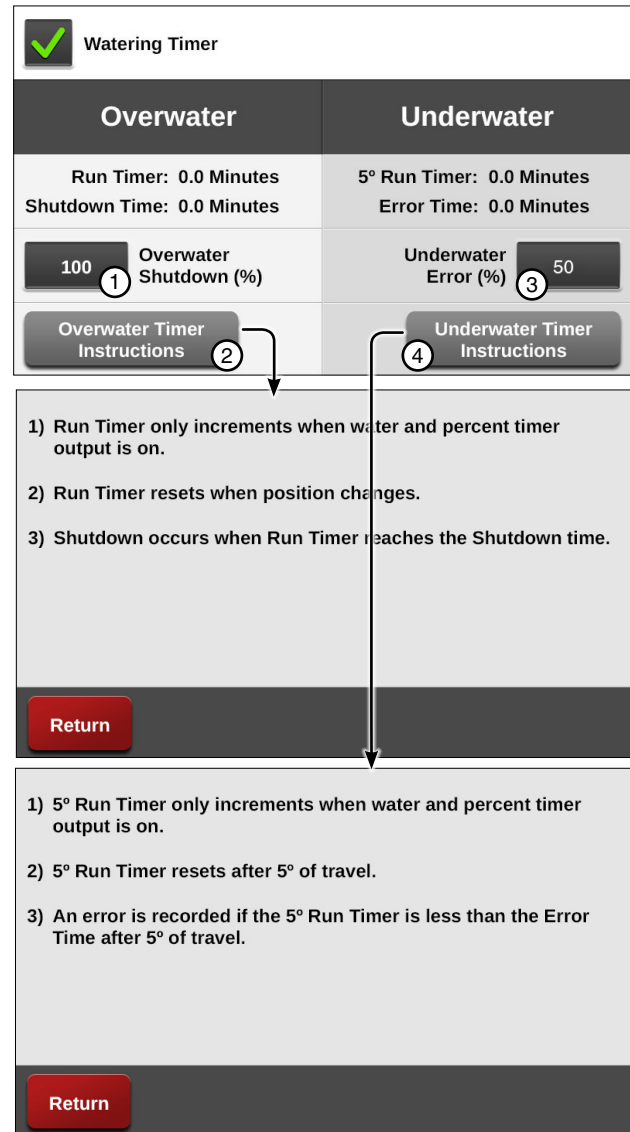

Figure 42-1 1. Overwater Shutdown
1. To set the Overwater Shutdown, push **Menu**, **Setup**, **Constants** and **Watering Timer** to display the Watering Timer screen. Refer to Figure 42-1.
To view the Overwater Timer Instructions, push **Menu**, **Setup**, **Constants**, **Watering Timer** and the **Overwater Timer Instructions** button. Refer to Figure 42-1.
1. To set the Underwater Error, push **Menu**, **Setup**, **Constants** and **Watering Timer** to display the Watering Timer screen. Refer to Figure 42-1.
To view the Underwater Timer Instructions, push **Menu**, **Setup**, **Constants**, **Watering Timer** and the **Underwater Timer Instructions** button. Refer to Figure 42-1.